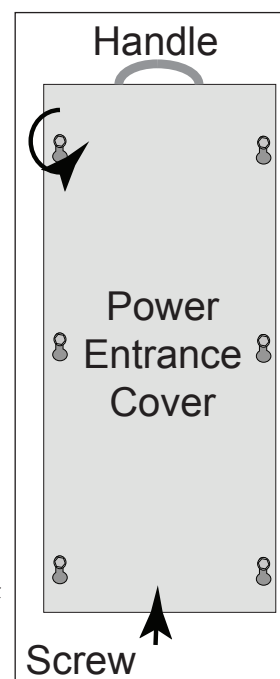

Figure 28: Power Entrance Access
5. Connect the ground wire to the ground lug at the bottom of the power entrance box (green wire) and tighten to 45 in-lbs with a $\frac{3}{16}$ " Allen wrench. Refer to **Figure 28**.